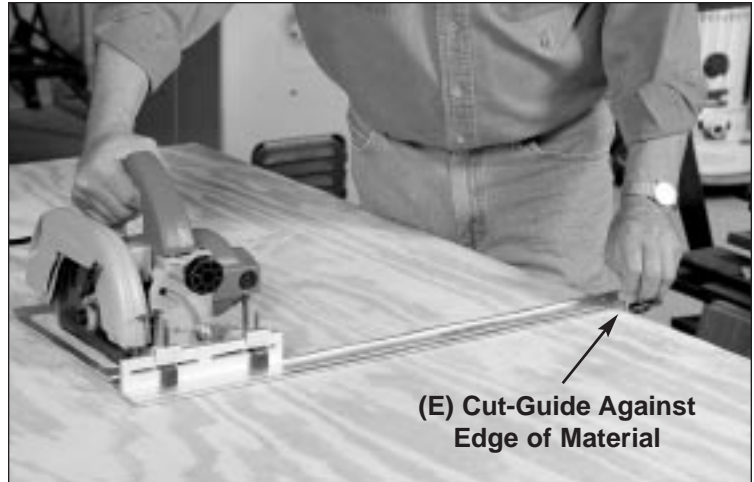

Fig. 9
3. You are now ready to make a cut. Simply make the cut as you normally would, keeping the face of the Cut-Guide (E) against the edge of your material as shown in Fig.9.
Fig. 9 shows the proper method for using the Rip Master to make a wide cut. Note the user is pushing the Cut-Guide (E) through the cut, keeping it parallel with the saw.
| <p>Cut is not straight</p> | <ol style="list-style-type: none"> 1. Too much force is being applied against the Rip Master when making cuts. 2. Dull or worn saw blade 3. Improper saw blade for material. 4. Making a cut too quickly. 5. T-Bolts or Cut-Guide Handle has loosened. 6. Rip Master is not flush with Saw's base plate. | <ol style="list-style-type: none"> 1. Only apply light pressure when holding the Cut-Guide against the edge of your material during a cut. Push the Rip Master in a forward motion, at the same pace as you push your saw. Refer to Fig.9. 2. Sharpen or replace blade. 3. Use only blades designed for the material being cut. 4. Slow down your cut speed. Do not apply excessive pressure when making a cut. 5. Re-align and re-tighten T-bolts and Cut-Guide Handle. 6. Re-attach the Rip Master to Saw's base plate, making sure that the Rip Master is flush with the front edge of the saw's base plate. Refer to Fig. 5 & 5a |